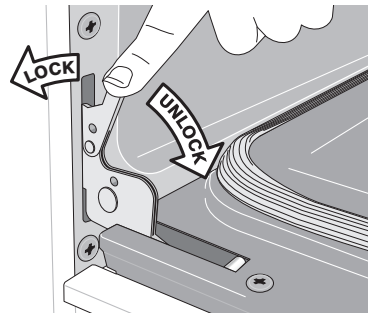

Figure 21: Hinge lock/unlock positions
2. Pull the door hinge locks on both left and right door hinges down from the oven frame completely towards the oven door (Figure 21). A tool such as a small flat-blade screwdriver may be required.
4. Push the door hinge locks up towards and into the oven frame on both left and right oven door hinges (Figure 21) to the locked position; then, close the oven door.